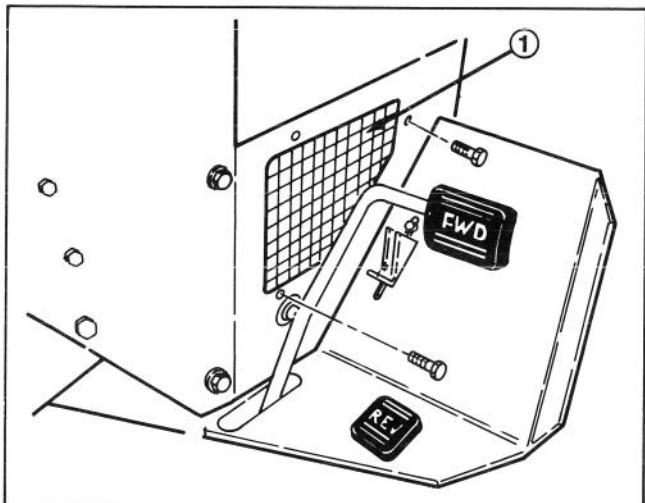

Figure 39
ADJUSTING TRACTION PEDAL (Fig. 39 & 40)
1. Remove (3) self tapping screws securing support screen to hydraulic support panel (Fig. 39). Remove screen.